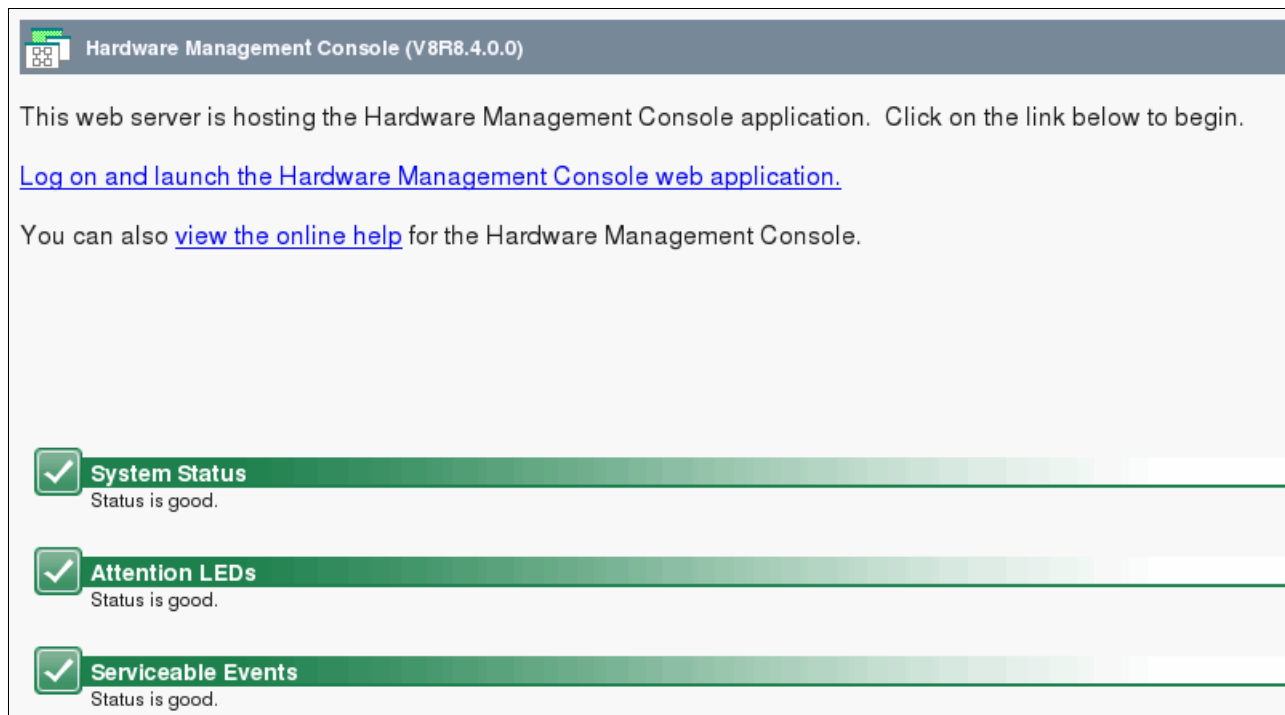

Figure 3-67 HMC welcome panel
20. After the vHMC is booted, and AE completed its work, you can now log in from the console, as shown in Figure 3-67.